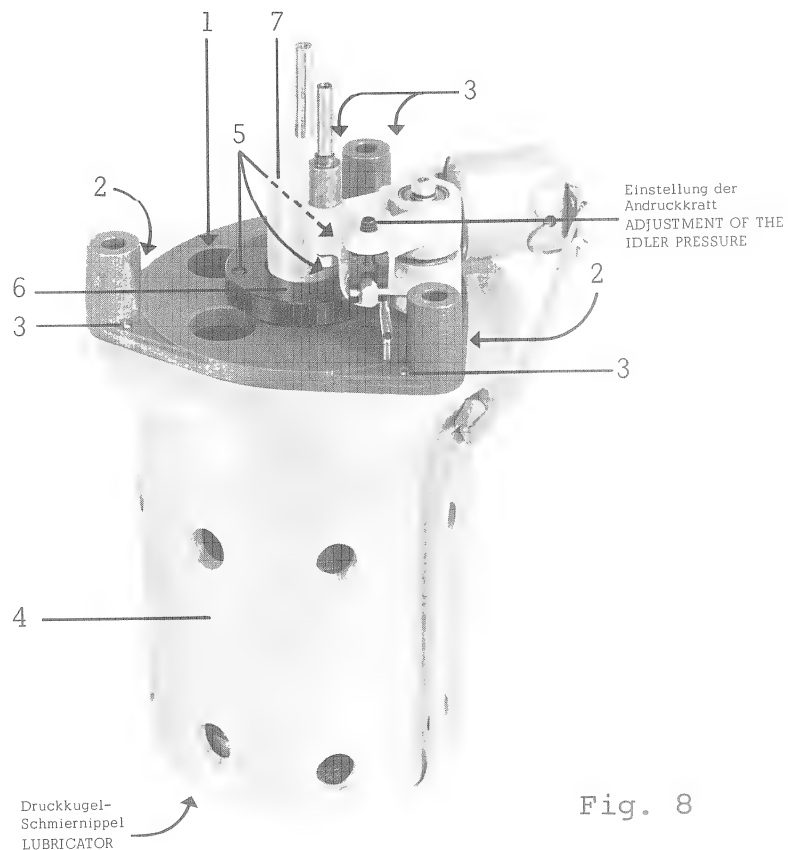

Fig. 8
- a. Remove the two M3 fixing screws of the rubber coupling through one of the two holes (1 in fig. 8) in the bearing flange. (The screw heads can be aligned with the holes by turning the capstan).
- b. Knock the two taper pins (2 in fig. 8, beside the casting marks) out by means of a suitable punch from the bearing-flange-side.
- d. Remove the four M4 allen-screws (3 in fig. 8) on the underneath side of the flange of the motor screening case. Next, remove the capstan assembly with bearing flange and fly-wheel from the motor-housing (4), being careful to keep it in line.
- f. Remove the M5 allen screws (5 in fig. 8) from the underneath side of the bearing flange, and remove the fixing ring (6 in fig. 8) and the capstan bearing (7 in fig. 8)
The four M4 allen screws (3 in fig. 8) should not be tightened until the two taper locating pins (2 in fig. 8) have been fitted.